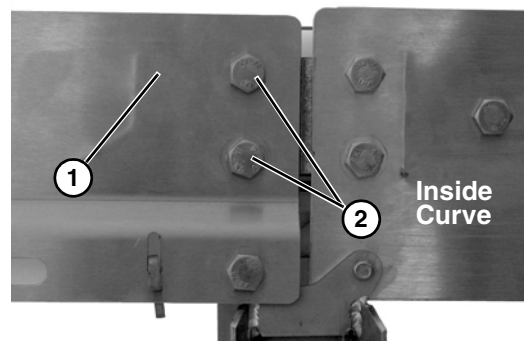

Figure 9
4. Secure straight section (Figure 9, item 1) onto curved section with two hex head bolts (Figure 9, item 2) with bolt heads to the outside as shown.